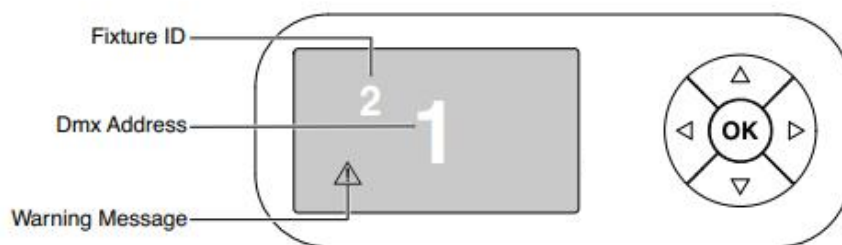

Figure 8
- (Fig. 8) has a display and buttons for the complete programming and management of the projector menu. The display can be in one of two conditions: